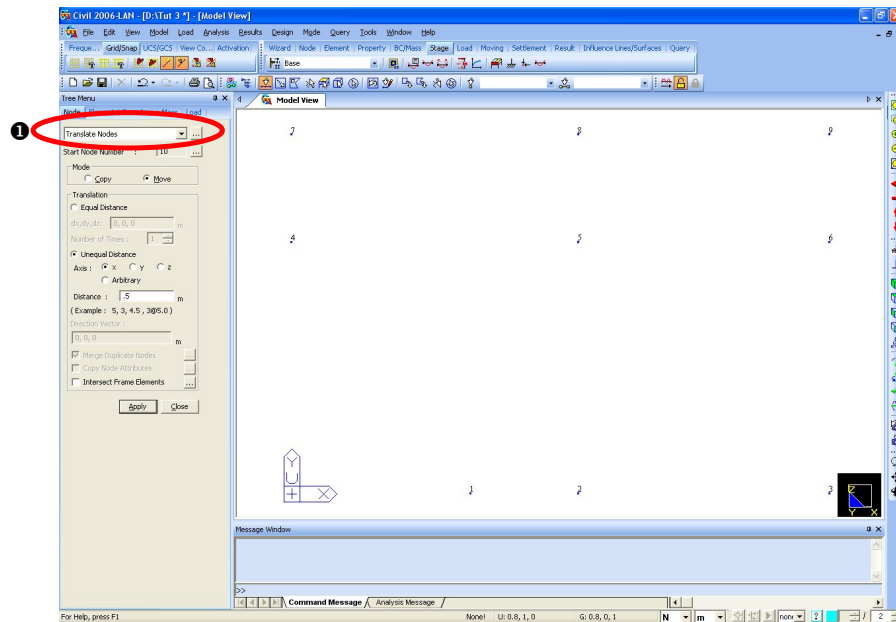

Figure 3.2 Generation of Nodes for Element Positions
6. Select **Translate Nodes** in the functions selection field (Fig.3.2–).